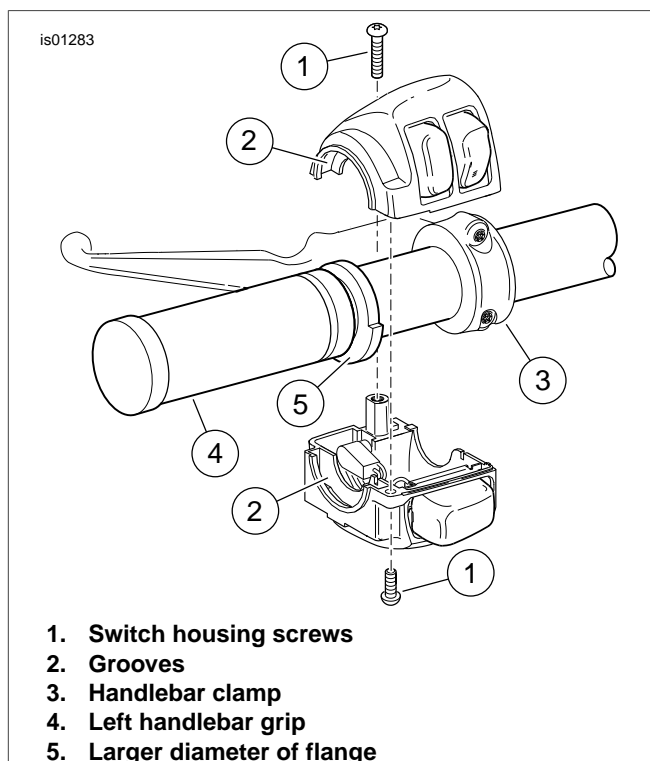

Figure 1. Left Handlebar Switch Housing
1. See Figure 1. Remove the upper and lower switch housing screws (1).
2. Loosen the upper screw securing the handlebar clamp (3) to the clutch lever bracket. Remove the lower clamp screw and flat washer. Loosen the clamp and position the clutch hand lever assembly away from the switch housing. Separate the upper and lower switch housings.